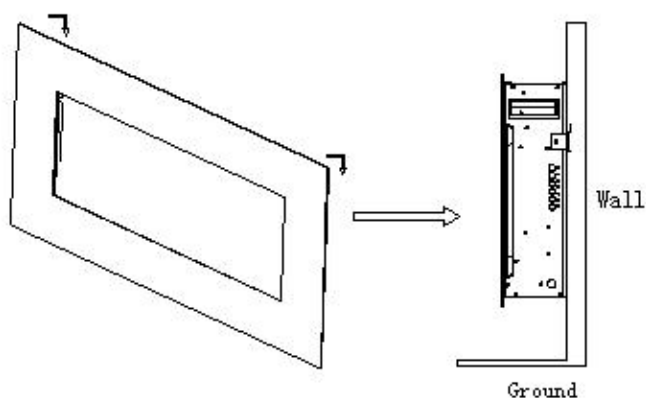

Fig 4.
STEP 6D. Align the tabs of the glass panel with the holes on the top edge of the fireplace. Thread the screws back into the holes and tighten them both with a Phillips screwdriver. **Fig 4. 5**